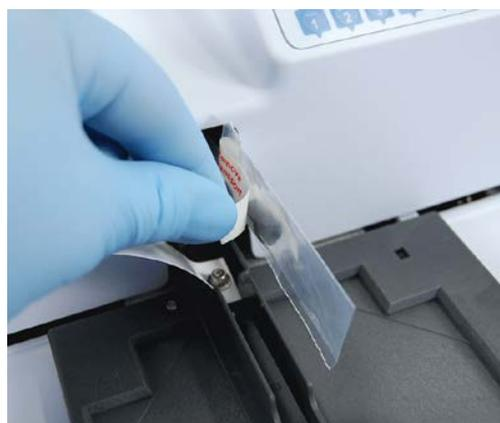

Figure 5. Transport lock and transport lock tag
1. Remove the padded packing material protecting the wash head arm and plate carrier to reveal the transport lock and transport lock tag (Figure 5). Also remove the plastic transport protection bag.